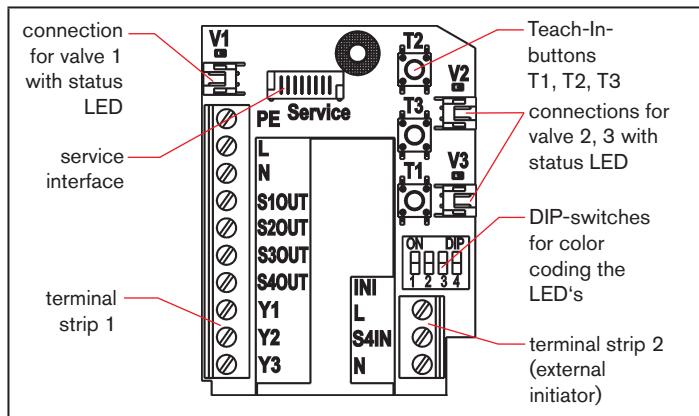

Fig. 8: Electronics module (120 V AC)
- Connect the wires to the connection terminals according to the pin assignment described in “Fig. 8”. Fix them.